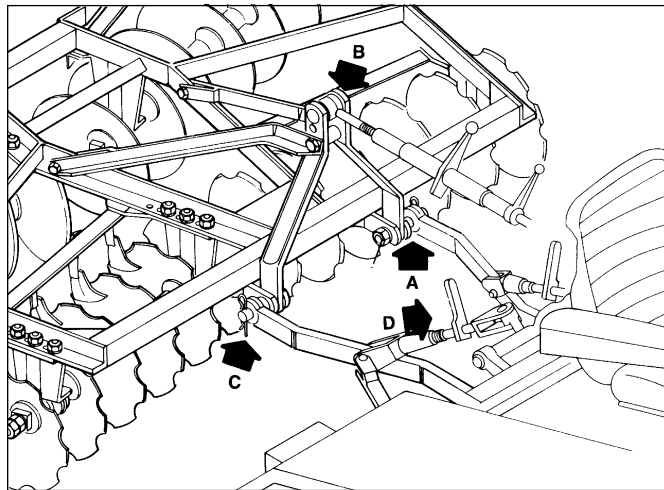

Figure 8
- 02 - Hitch the left inferior arm of the tractor with the hitch pin (1), figure 8, into the "A" support of the grade.
- 04 - Finally, with the height adjustment level "D", hitch the inferior right arm of the tractor into the "C" support of the grade according to figure 8.